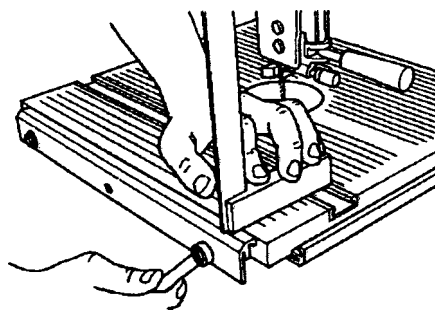
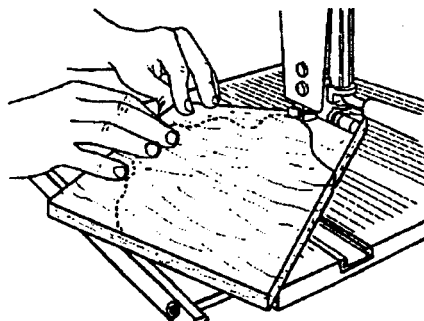

Fig. 4
Fig. 6
5. Place a precision square (or straightedge) over both the table and extension, as shown in Figs. 4 and 5. Adjust the extension by slightly raising or lowering the bar until it is flush with the table top.
6. When the bar is flush with the table, use a  $7/16$ " wrench to tighten the bolts, as also seen in Figs. 4 and 5. Fig. 6 shows the assembled and aligned table extension being used to support the workpiece during a cut.